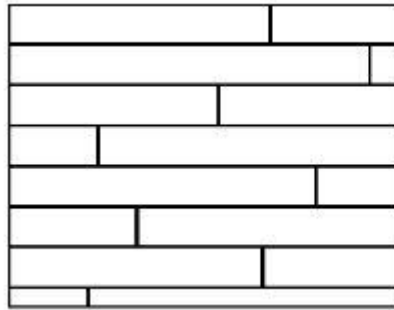

Figure A-1: Acceptable
6. Racking rule of thumb: Stagger end joints in adjacent rows at least twice the width of the boards, as product allows. Avoid H-joints. See Figure A-1.